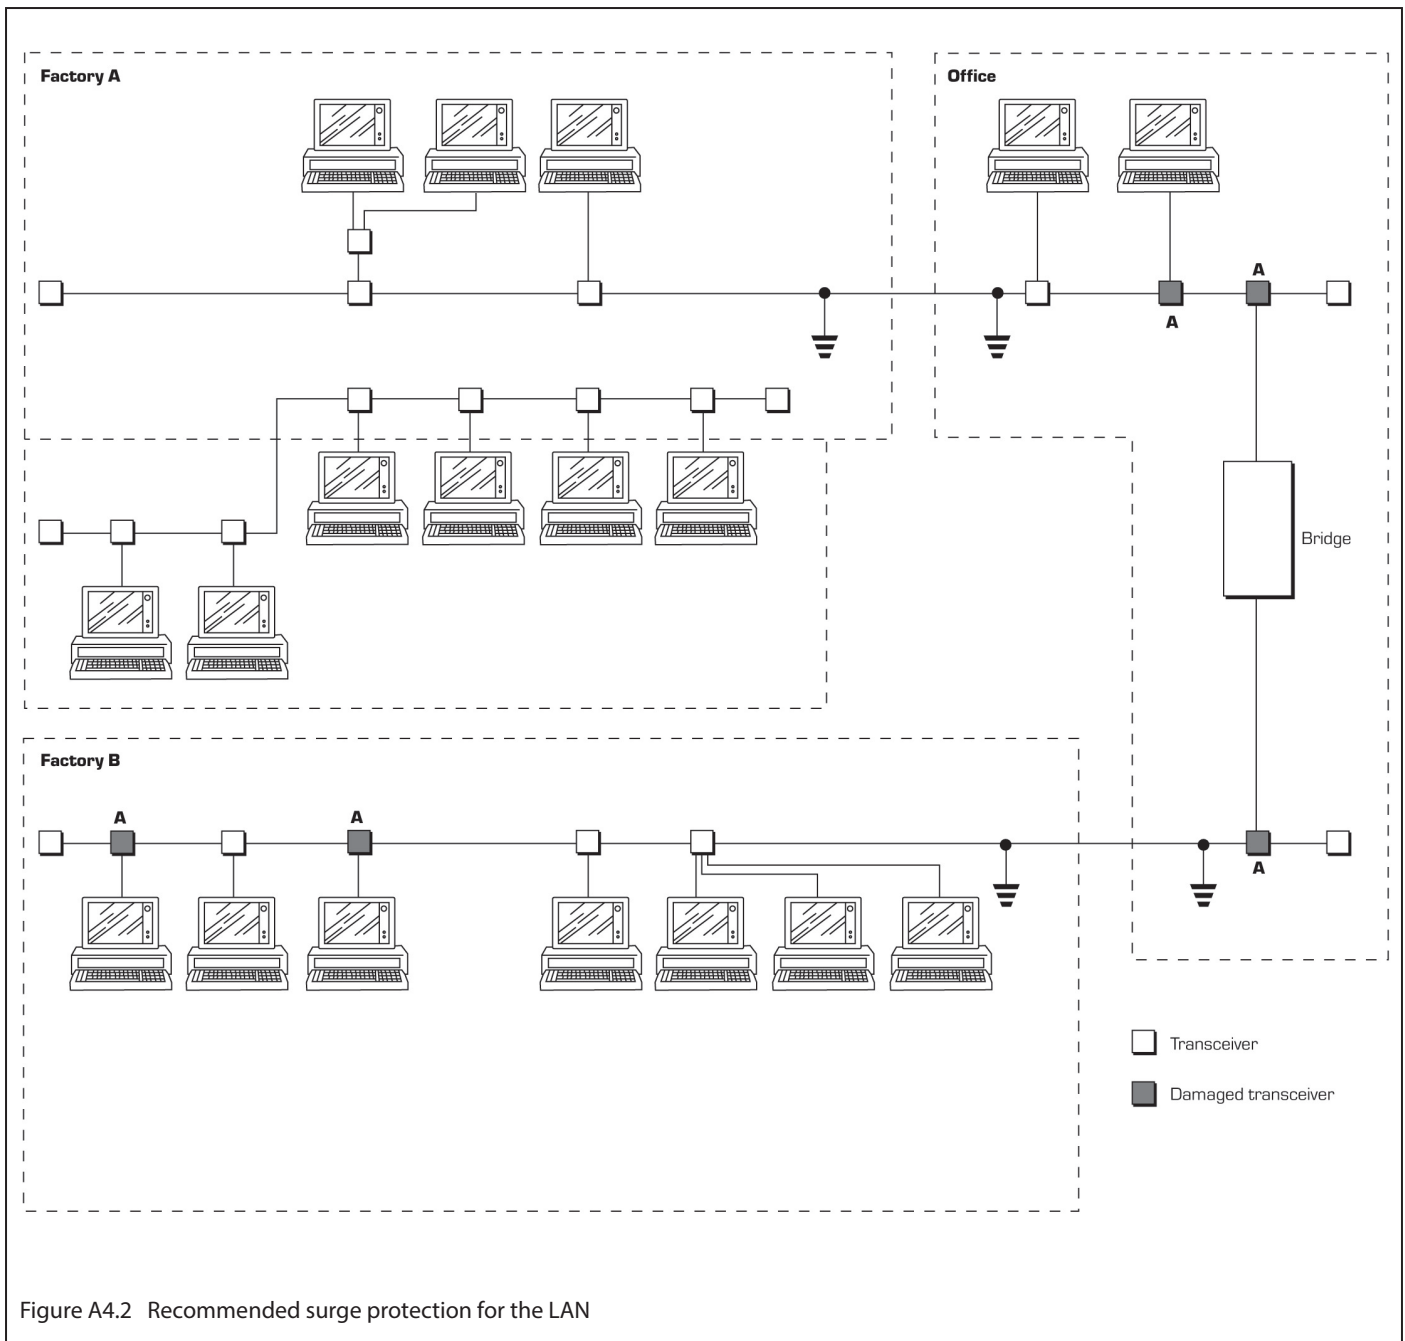

Figure A4.2 Recommended surge protection for the LAN
In case (1) network surge protection devices (SPDs) type ZoneBarrier ZBS 24534 should be installed at positions B in figure A4.2, close to the mains power distribution board, and earthed there using as short a length of cable as possible, with a diameter of 2.5mm2 or greater (length is much more important than diameter). To reduce the effect of cable inductance, several cables can be run electrically in parallel, but spaced apart physically. If earthed metal panels are available at the distribution board, these would offer further reduction in inductance, and better protection.